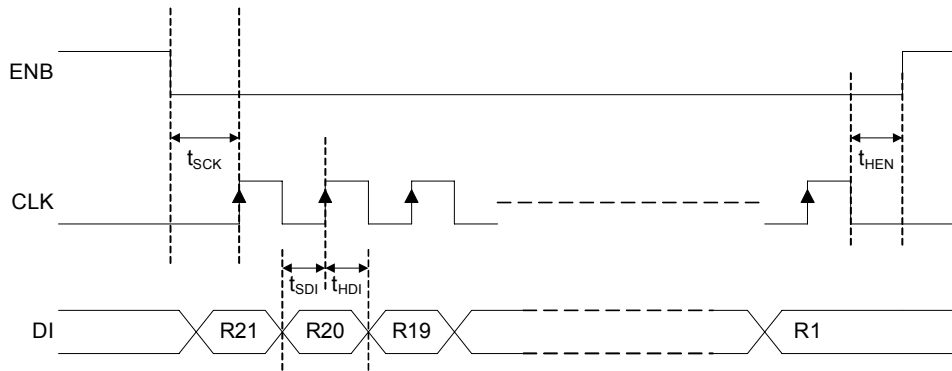

FIGURE 22. TIMING DIAGRAM FOR PROGRAMMING THE INTERNAL REGISTERS OF THE QLx4300-S45
Pins 16 (DI), 45 (ENB), and 46 (CLK) are used to program the registers inside the QLx4300-S45. Figure 22 shows an exemplary timing diagram for the signals on these pins. The serial bus can be used to program a single QLx4300-S45 according to the following steps:
Multiple QLx4300-S45 devices can be programmed from a common serial data stream as shown in Figure 23. Here, each QLx4300-S45 is provided its own ENB signal, and only one of these ENB signals is pulled 'LOW', and hence accepting the register data one at a time. In this situation, the programming of each equalizer follows the steps outlined in Figure 22.